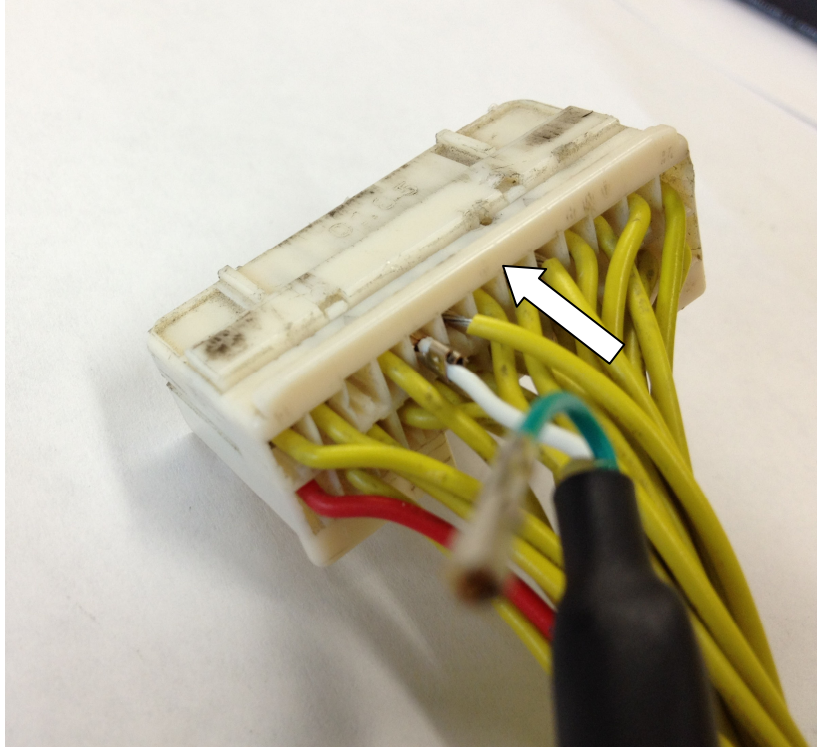

Figure 9: Pushing pin into ECU plug
5. To install the harness into the ECU plug, align the CANL and CANH pins into the receptacle of the plug and push in until it clicks as shown in figure 9: